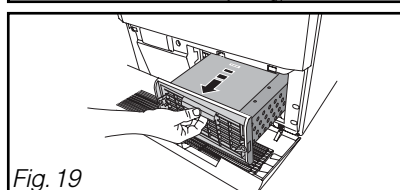

Fig. 19
- Remove it carefully (Fig.19).